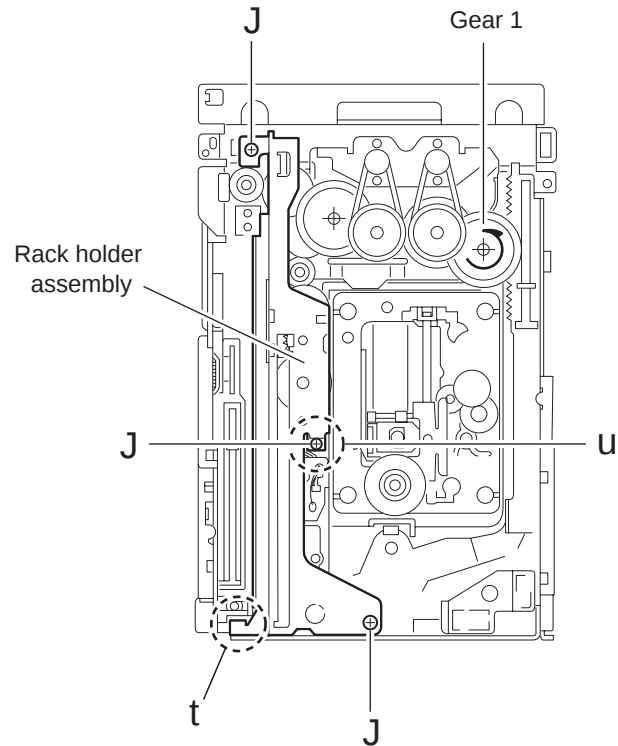

Fig.23
3.2.8 Removing the rack holder assembly/ sensor assembly (See Figs.23 to 28)
- Prior to performing the following procedure, remove the tray assembly, side (L)/ side (R) assembly, lifter assembly.